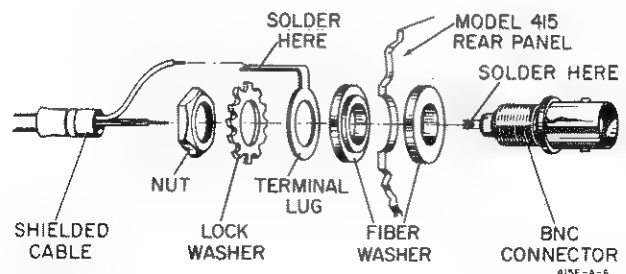

Figure I-2. Connector Assembly
a. Refer to Figure I-2 which shows the proper assembly of the rear panel connector and cable assembly.